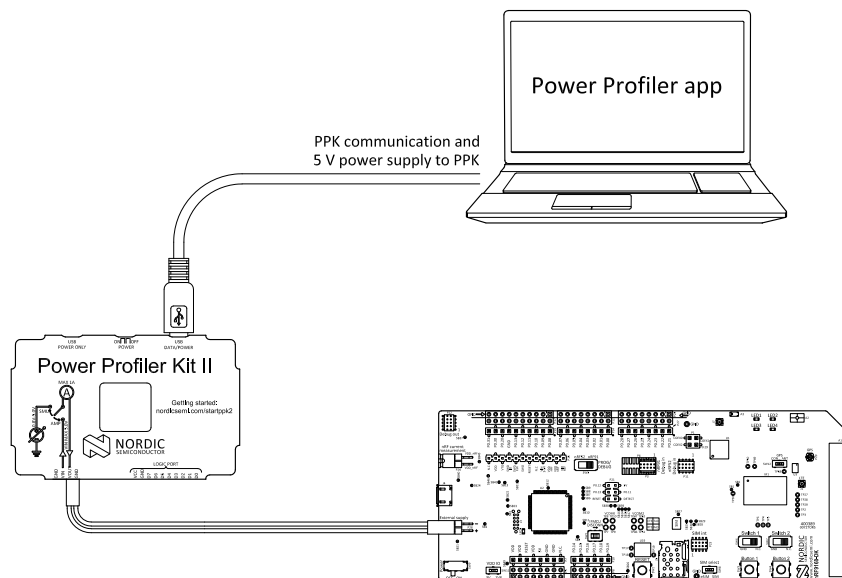

Figure 5: Measuring current in Source Meter mode
- If the PPK2 is set up to measure in Source Meter mode (see Figure 5: Measuring current in Source Meter mode on page 11 ), select **Source Meter**.